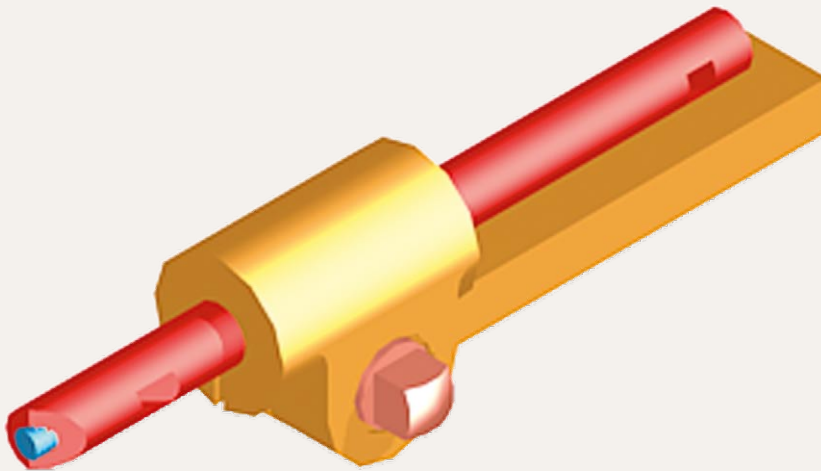

Fig. 15.52 Exercise 1
1. A rendering of an assembled lathe tool holder is shown in Fig. 15.52. The rendering includes different materials for each part of the assembly.